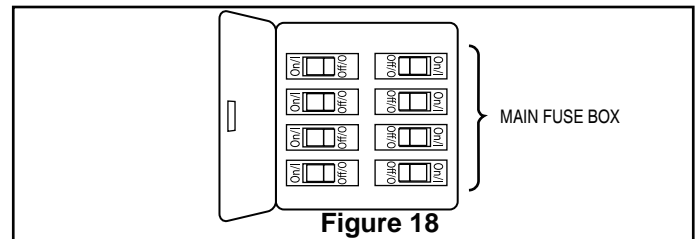

Figure 18
1. Restore electrical power to the outlet box by turning the electricity on at the main fuse box. (Figure 18)